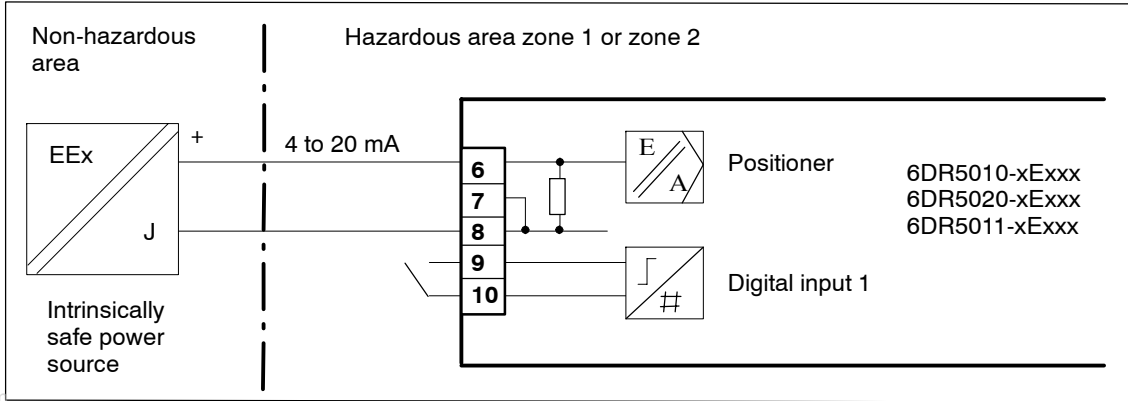

Figure 3-20 Two-wire connection, EEx i
4. Connect a suitable current or voltage source (see figure 3-13, page 59 and figure 3-20, page 63).
5. The positioner is now in the operating mode **“P-manual operation”**. The current potentiometer voltage (P) is displayed in percent in the top line of the display, e.g.: **“P12.3”**, and **“NOINI”** flashes in the bottom line: